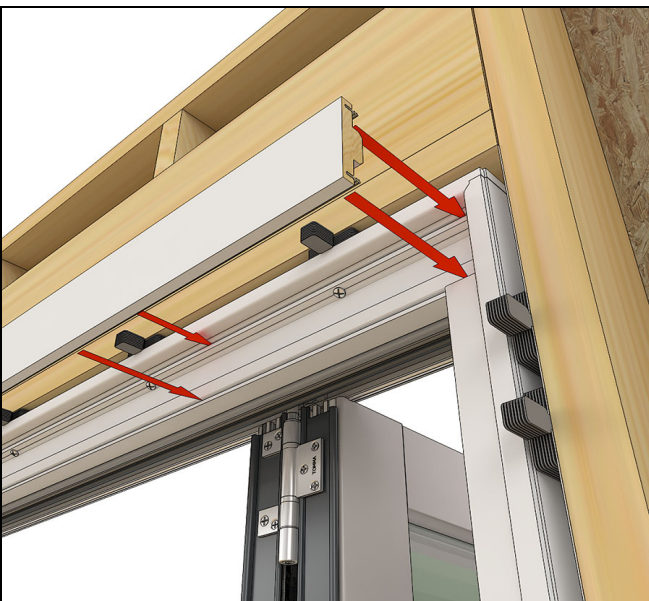

Figure 56
3. Install the head jamb stop cap. See Figure 56.